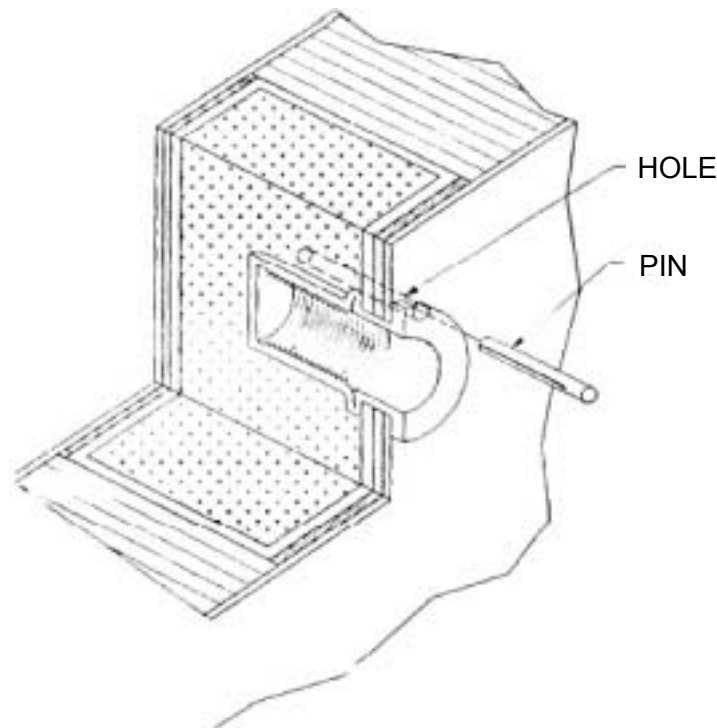

Figure 4-27. Spinning Rivnut
(3) Repair. (figure 4-27) When excessive torque is applied on screws attached on rivnuts, it may cause a rivnut to spin (turn). Table 4-4 provides the maximum torque requirement for hardware to prevent rivnut turning: To correct a spinning rivnut, proceed as follows:
(a) Drill a .062 (+ .003, - .001) diameter hole by 1.00 inch long on the stem of the spinning rivnut as shown in figure 4-27.